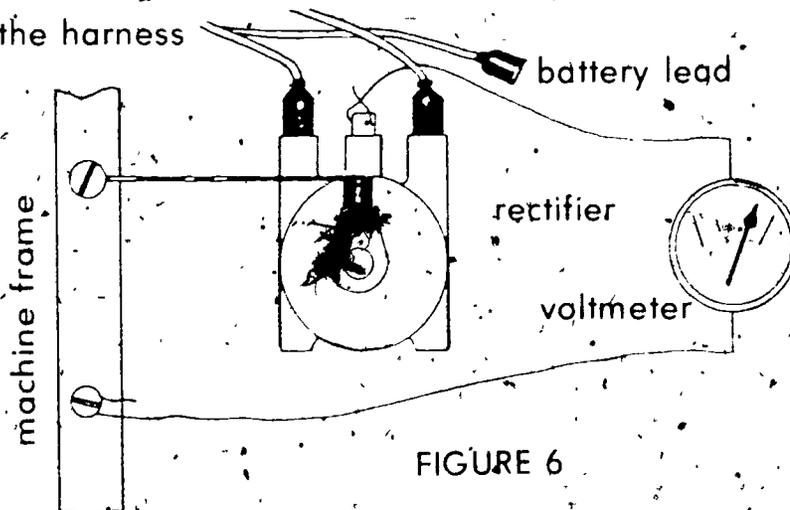

FIGURE 6
3. Test full-wave rectifier with voltmeter (Figure 6)